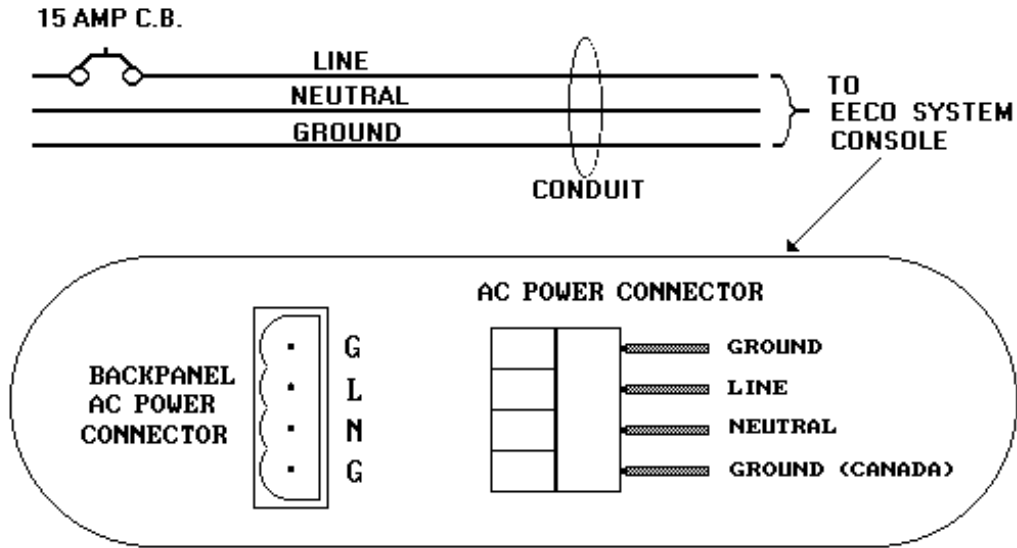

Figure 4 - Console AC Power Wiring
- Make wire connections as shown in Figure 4. Connect Ground, Line, and Neutral for US installations, include the second Ground wire for Canada.
Note that the connector view is positioned with the screws on the back side. Strip 1/4" insulation from the end of each individual wire. Insert the wires into the connector as shown in Figure 4 and tighten each screw securely. Insert the 4-position AC power connector into the mating receptacle.